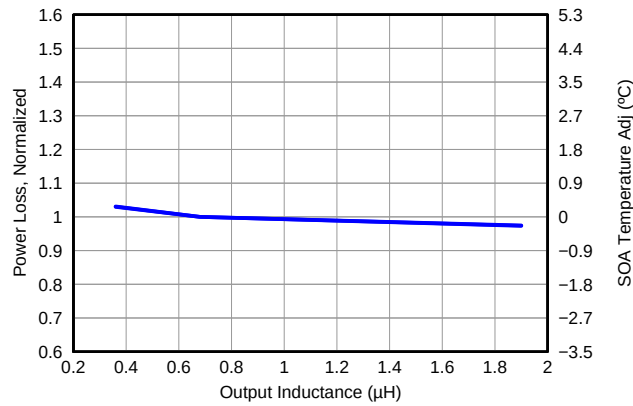

Figure 9. Normalized Power Loss vs Output Inductance
- Normalized power loss for output inductor ≈ 1.05 (Figure 9)
- SOA adjustment for output inductor $\approx 0.45^{\circ}\text{C}$ (Figure 9)